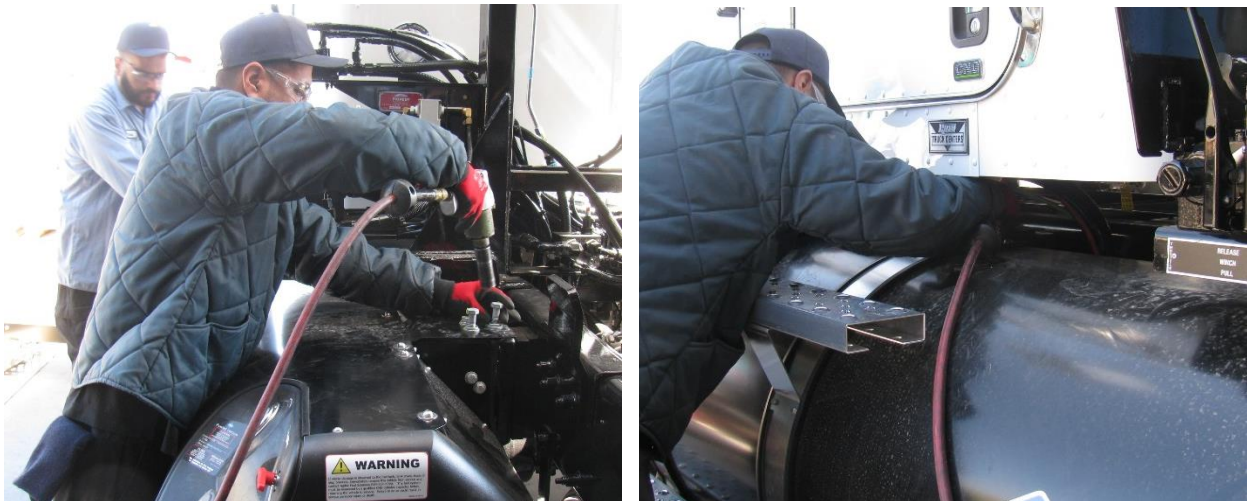

Figure 6. Remove J-bracket Drop-N-Go bolts securing the system to the chassis.
4. Remove bolts securing the system Drop-N-Go™ brackets to the vehicle chassis as shown in Figures 6 and 7.